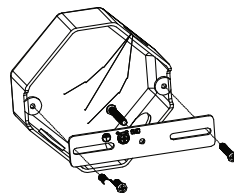

Fig. 2
2. Insert the machine screw (part 2) into the center hole of the crossbar (part 7). Attach the crossbar to your junction box (not included) with 2 machine screws (part 3). Ensure that the screw thread on the center hole is pointing away from the junction box. (See Fig. 2)